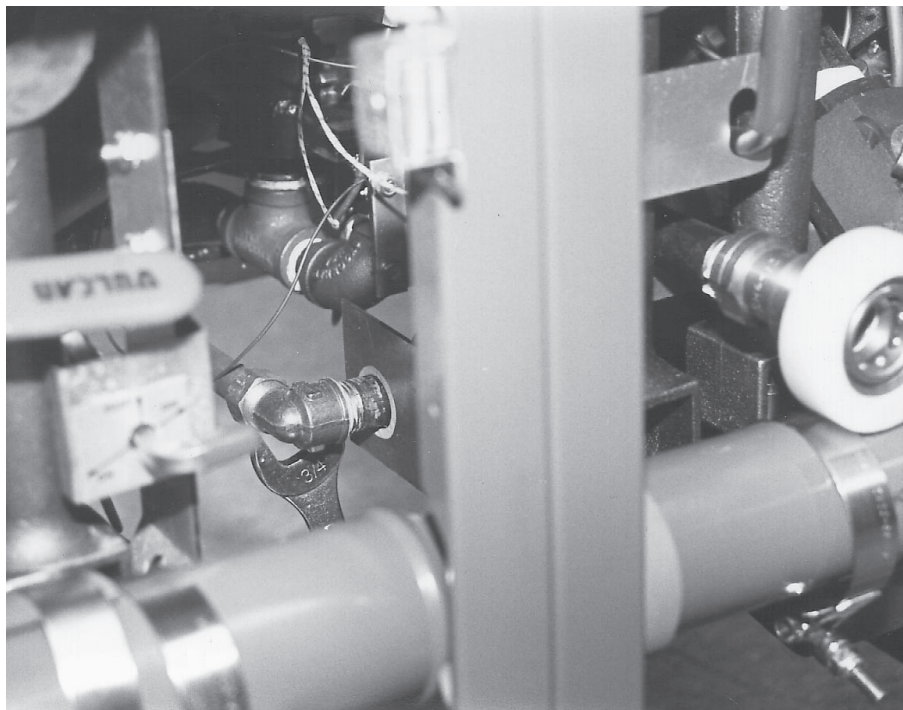

Fig. 38
6. With a 3/4" wrench remove the gas line compression elbow fitting. (Fig. 38)